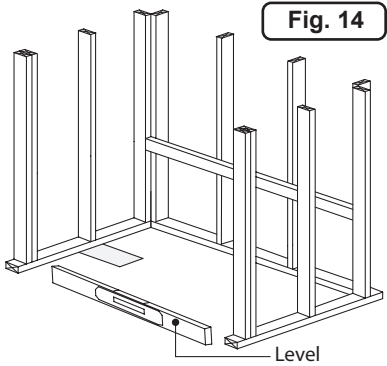

Fig. 14
1. Make sure framed-in alcove is of proper size per Jacuzzi dimensions, square, and plumb; check floor for levelness (Figure 14). Rough-in should be kept to a minimum until the unit is on the job site. Measurements may vary +0 or -1/4" from original specifications.